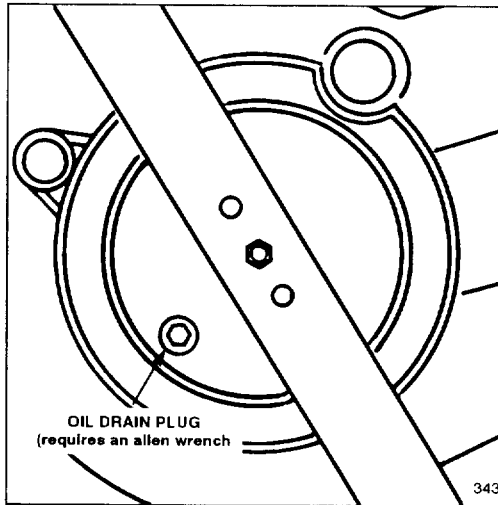
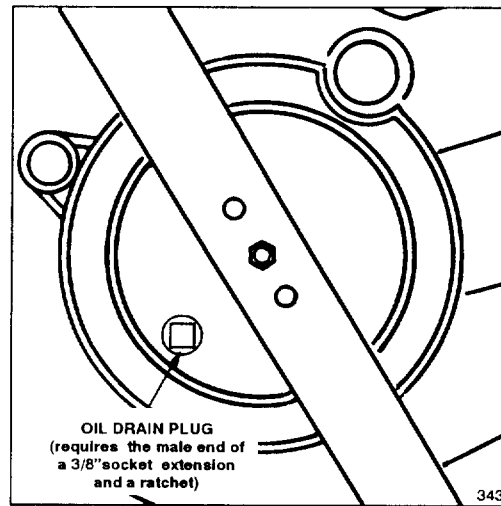

Figure 11
Figure 12
3. The oil drain plug is on the underside of the mower deck (Fig. 11 & 12). The recommended procedure for tipping the mower to access the plug is to tip the mower backward onto its handle and have someone firmly hold the mower in this position while you remove the plug. **DO NOT TIP MOWER ON SIDES OR FORWARD WHEN DRAINING OIL.**
5. Remove drain plug from underside of mower using a 5/16" allen wrench (Fig. 11) or the male end of a 3/8" socket extension with a ratchet for turning (Fig. 12). Plug style will vary.